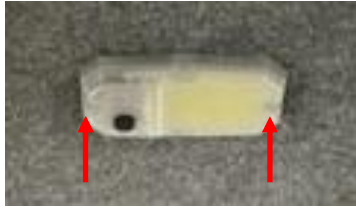

Figure 7: Remove the dome light and front roof liner.
5. Remove the two screws mounting the dome light, and then unplug both bullet connectors from the back of the dome light to remove the dome light and entire front roof liner. See Figure 7.
19. Reinstall the front roof liner, dome light, and center roof liner support (if equipped). See Figure 4, Figure 5, Figure 6, and Figure 7. The front edge of the